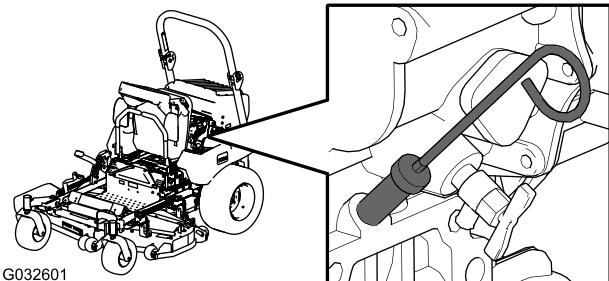

Figure 47
3. Check the engine-oil level (Figure 47).